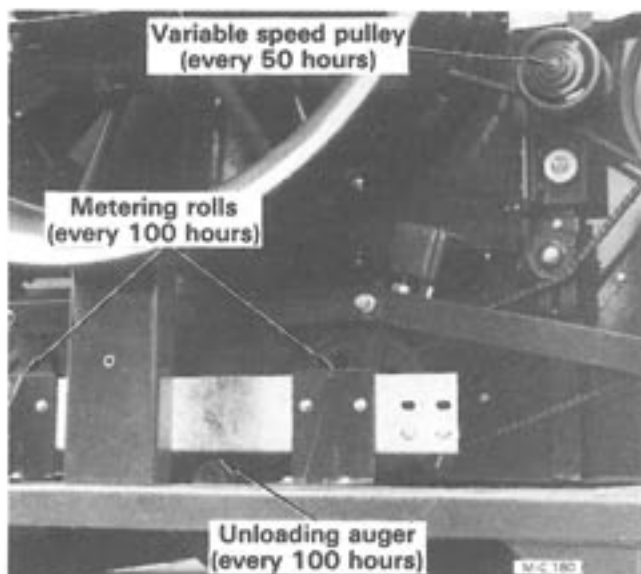

Figure 16
2. **Every 50 hours** - Lubricate the variable speed pulley shaft bearings sparingly, see Figure 16. Over greasing will damage the seals and possibly force grease out onto the belts.
CAUTION: The guards were removed in Figure 16 and 17 to provide clear illustrations. Do not operate the dryer without guards in place and secure.
the front bearing on each grain metering roll, see Figure 16.